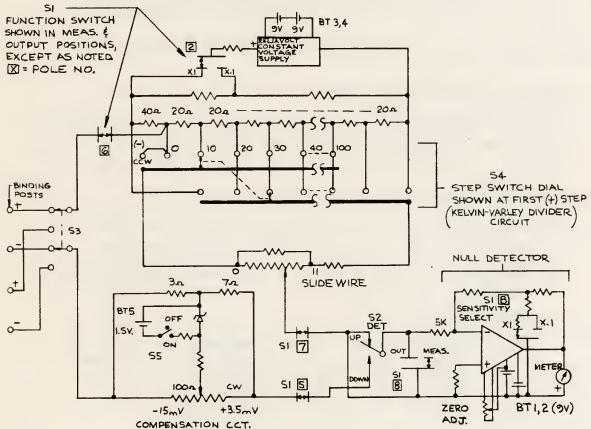

FIGURE 3: Simplified Schematic of Potentiometer in Measure and Output Modes (Values Given for Millivolt Version)
3. CIRCUIT DESCRIPTION (Refer to appropriate schematic diagram, Figure 13 or 14, and to the simplified schematic, Figure 3).